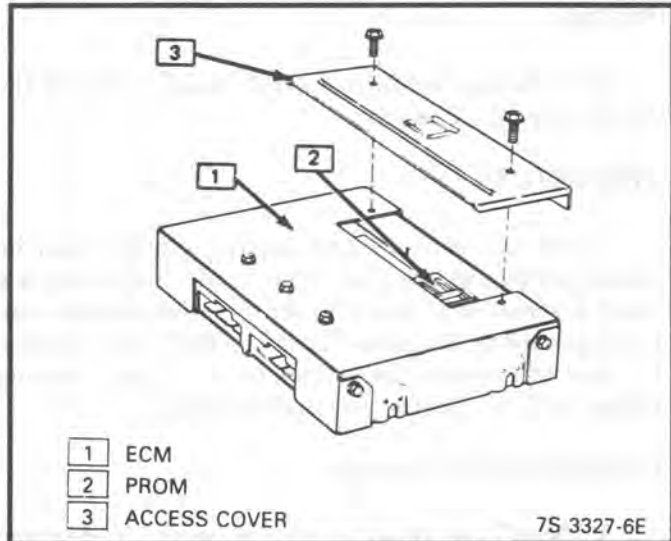

Figure C1-8 - ECM PROM Access Cover
4. ECM access cover (see Figure C1-8).
Using the rocker-type PROM removal tool, engage one end of the PROM carrier with the hook end of the tool (see Figure C1-8). Press on the vertical bar end of the tool and rock the engaged end of the PROM carrier up as far as possible.